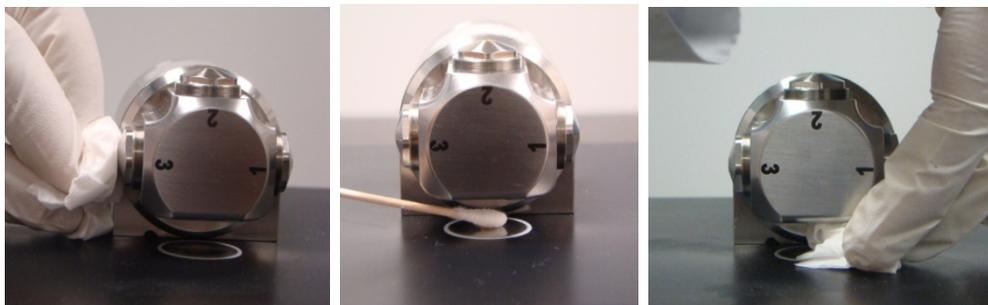

Figure 15. Cleaning the DialPath Position 3 window (left) and cleaning the sample mounting area
- 2 Clean the window of the position last used for analysis, using a cotton swab dipped in acetone (see Figure 15, which shows cleaning Position 3).
- 3 Clean the bottom sample mounting area (see Figure 15).